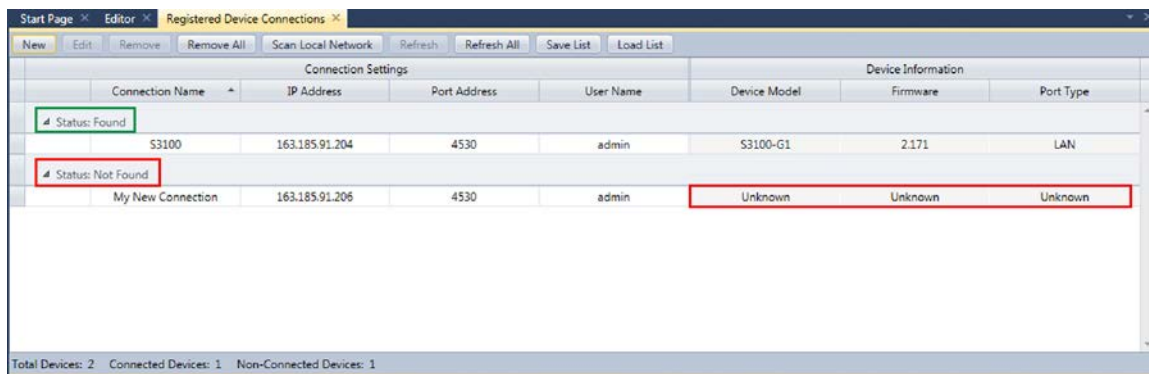

Figure 3.3—New Device Connection, Status: Not Found
6. Click **OK** to apply the New Device Connection settings. If the information you entered is correct, the device will appear under the “Status: Found” heading. If not, the device will appear under “Status: Not Found,” which means either (1) the device does not exist on your network or (2) the device information was entered incorrectly. See Figure 3.3 for an example of the “Status: Not Found” result. Note that the device information is “Unknown.”